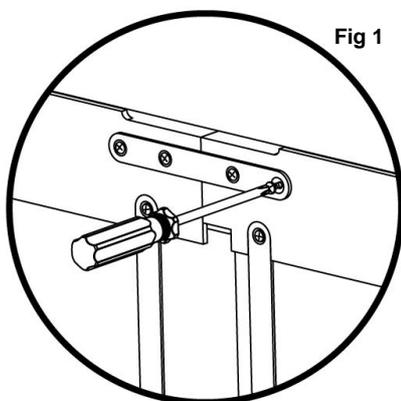

Fig 1
2. Unfold the bath panel and attach the retaining brace by loosely inserting each of the four bolts to ensure that the brace is correctly lined up and then fully tightening each one from the centre out. Fig 1